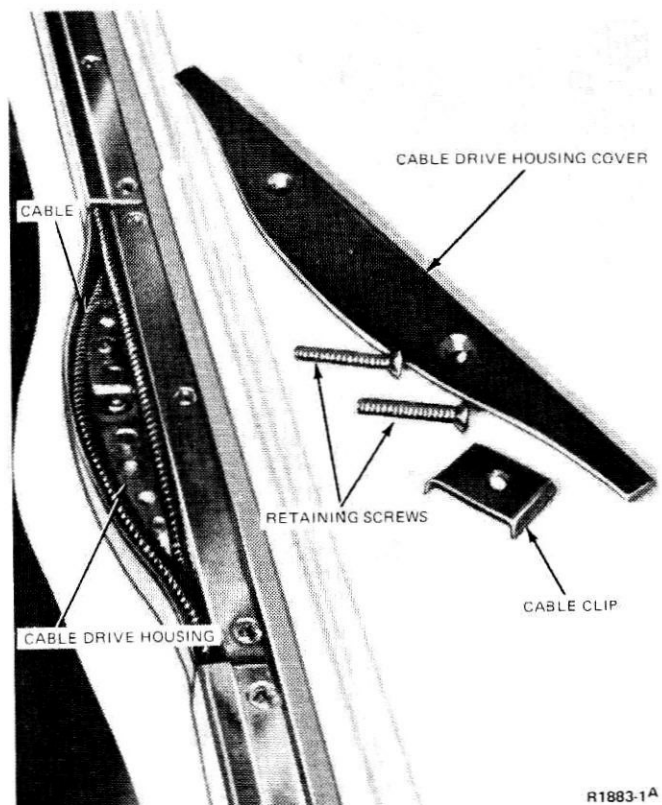

FIG. 13 Cable Cover Removal
4. Remove the front track cover and cable cover to gain access to the drive gear. (See Fig. 13).